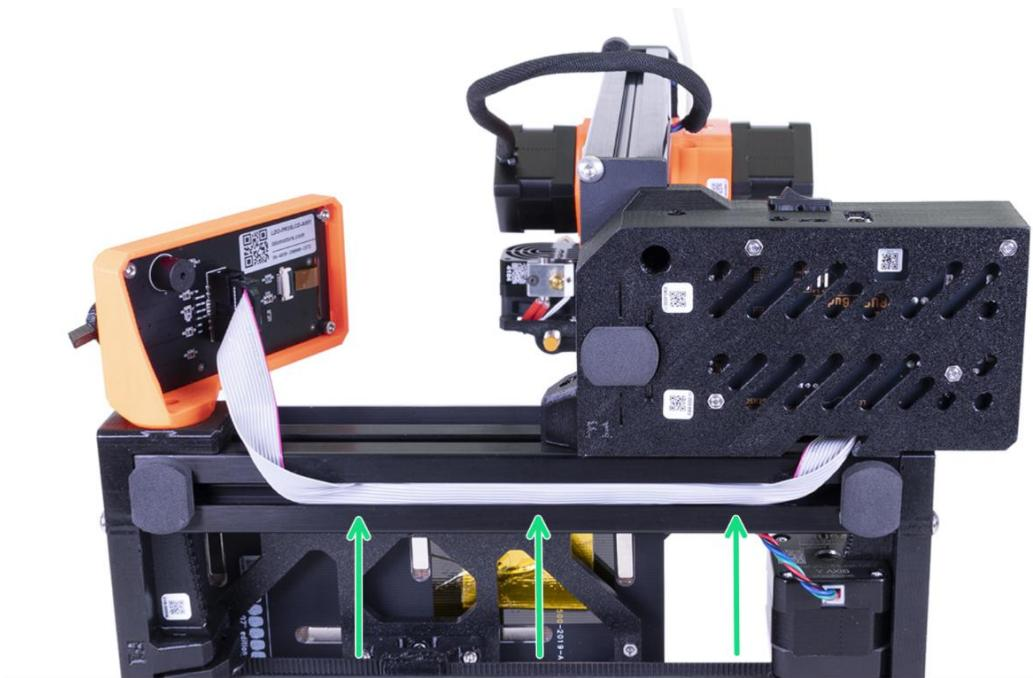

Figure 5.1.25
**C:** As shown in Figure 5.1.25. Gently insert the cable inside the extrusion. Leave some slack outside near the LCD, so you can tilt it later on.